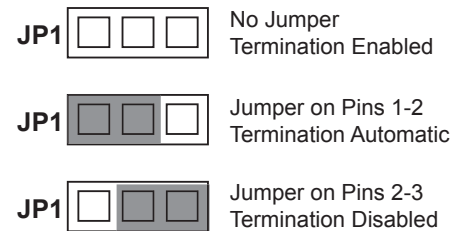

Figure 3 JP1 - SCSI Termination
3. Determine the SCSI termination using the pin combinations on JP1, as shown in Figure 3.
The SV6 includes active termination that is enabled by default. Termination may be set to automatic by installing a jumper on pins 1 and 2 on JP1. Termination may be disabled by installing a jumper on pins 2 and 3 on JP1. See Figure 3 for jumper installation.